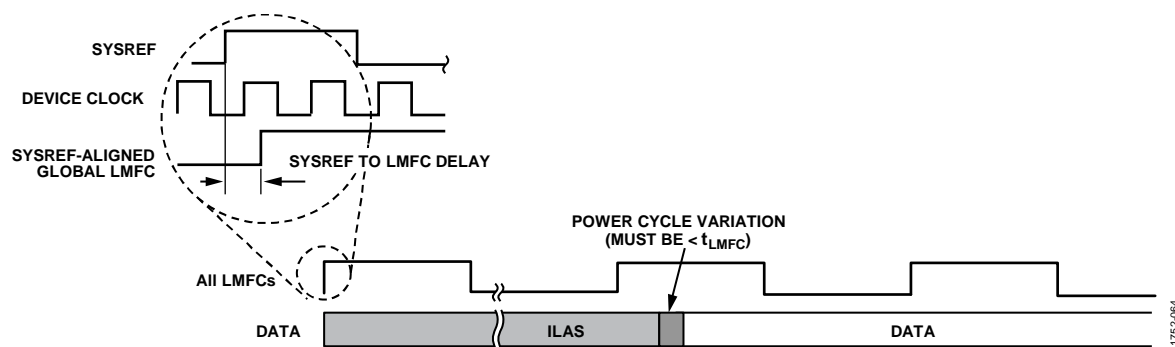

Figure 171. SYSREF± and LMFC
The JESD204B protocol organizes data samples into octets, frames, and multiframe as described in the Transport Layer section. The local multiframe clock (LMFC) is synchronous with the beginnings of these multiframe. In Subclass 1 operation, the SYSREF± signal synchronizes the LMFCs for each device in a link or across multiple links (within the AD9680, SYSREF± also synchronizes the internal sample dividers), as shown in Figure 171. The JESD204B receiver uses the multiframe boundaries and
- The total latency variation across all lanes, links, and devices must be ≤ 1 LMFC period (see Figure 171). This includes both variable delays and the variation in fixed delays from lane to lane, link to link, and device to device in the system.